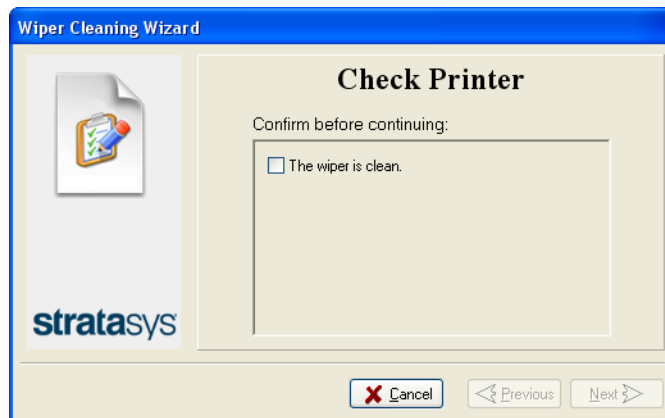

Figure 6-37 Wiper Cleaning wizard during steps 6–9
9. In the wizard screen (see Figure 6-37), confirm that the wiper blade is clean, and click Next.